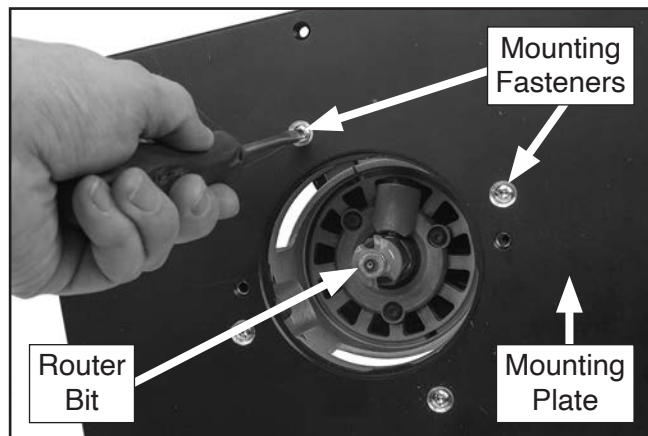

Figure 24. Securing mounting plate to router base.
10. Align holes in mounting plate with threaded holes in router base, and use fasteners removed in **Step 5** to secure router to mounting plate, as shown in **Figure 24**.